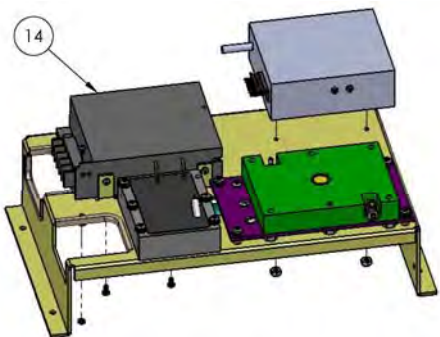

Figure 5A
3. Separate top panel from chassis. Refer to Figures 5A and 5B.